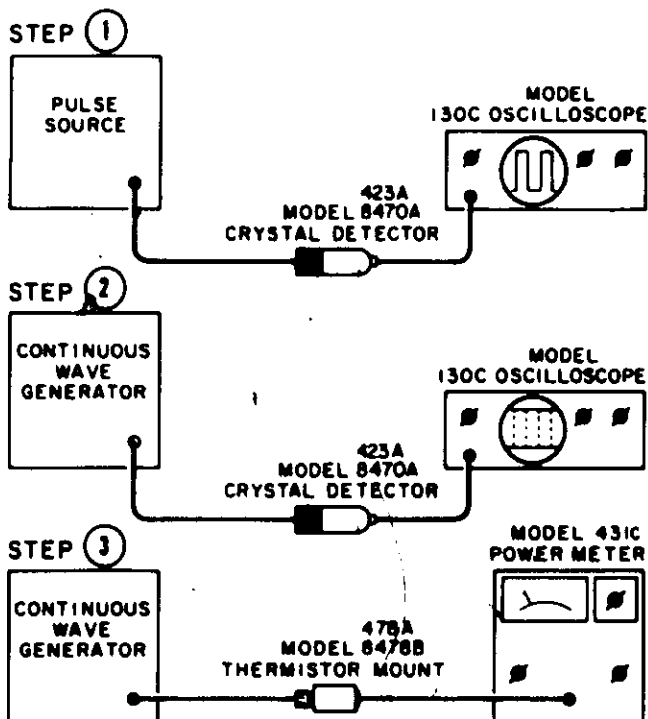

Figure 2. Peak Power Measurement.
The arrangement of equipment for peak power measurement is shown in Figure 2. The procedure involves calibration of an oscilloscope which in turn is used to calibrate a CW generator. The output of the calibrated CW generator is measured with a power meter; the peak power of a pulse is thereby measured. The procedure is as follows:
- a. Connect equipment as shown in Figure 2, step 1.